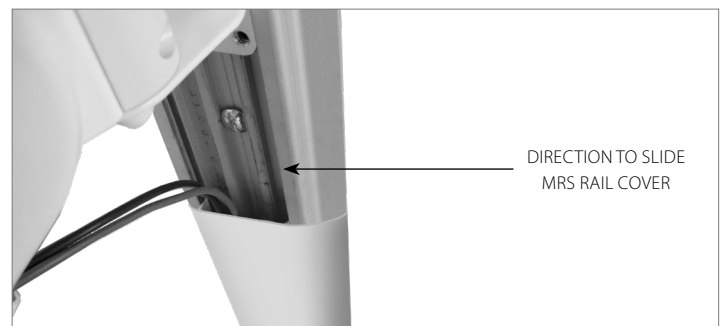

Figure 2
1. Guide the cables into the center of the *MRS RAIL*, keep cables off the 2x sides of the *MRS RAIL* (Figure 2).